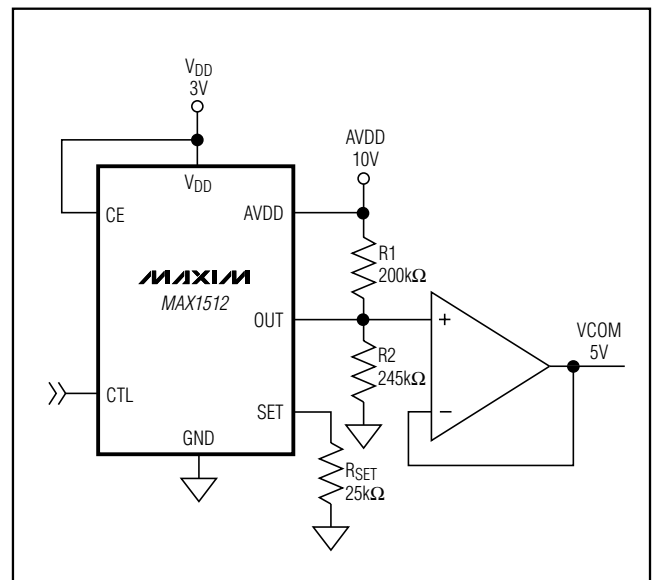
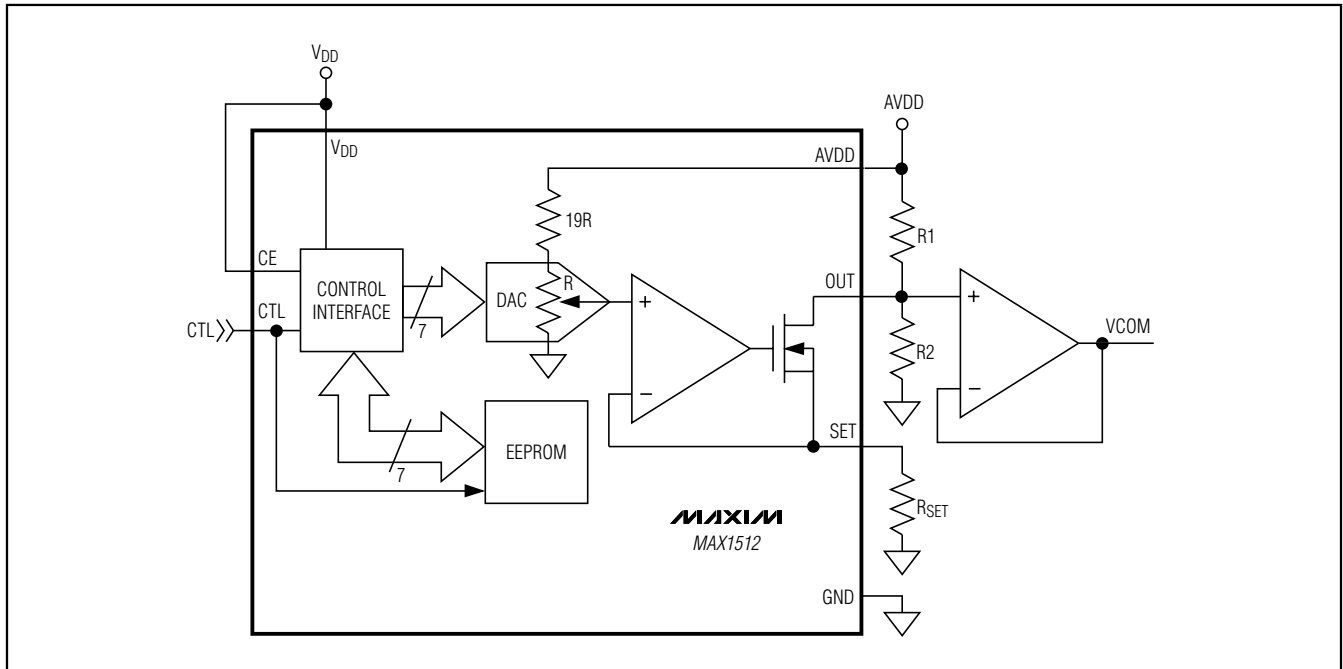

Figure 1. Standard Application Circuit
Figure 2. Simplified Functional Diagram
(Circuit of Figure 1,  $V_{DD} = 3V$ ,  $V_{AVDD} = 10V$ ,  $V_{OUT} = 5V$ ,  $R_{SET} = 30.1k\Omega$ ,  $T_A = 0^{\circ}C$  to  $+85^{\circ}C$ , unless otherwise noted. Typical values are at  $T_A = +25^{\circ}C$ .) (Note 1)
(Circuit of Figure 1,  $V_{DD} = 3V$ ,  $V_{AVDD} = 10V$ ,  $V_{OUT} = 5V$ ,  $R_{SET} = 24.9k\Omega$ ,  $T_A = +25^\circ C$ , DAC half scale, unless otherwise noted.)
The MAX1512 is a solid-state alternative to mechanical potentiometers used for adjusting the LCD backplane voltage (VCOM) in TFT LCD displays. The MAX1512 attaches to an external resistive voltage-divider and sinks a programmable current (IOUT), which sets the VCOM level (Figure 1). An internal 7-bit DAC controls the sink current and allows the user to increase or decrease the VCOM level (Figure 2). The DAC is ratio-metric relative to AVDD and is monotonic over all operating conditions. The user can store the DAC setting in an internal EEPROM. On power-up, the EEPROM presets the DAC to the last stored setting. The single-wire interface between the LCD panel and the programming circuit adjusts the DAC, programs the EEPROM, and provides programming power.
- Place the VCOM buffer and the R1/R2 voltage-divider close to the OUT pin (Figure 1). Keep the VCOM buffer and the R1/R2 voltage-divider close to each other.